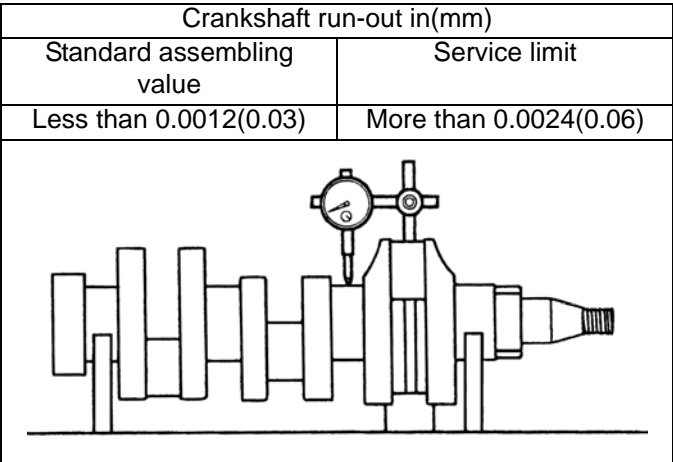

Fig. 3-28
- 1. To measure run-out of the crankshaft, support the crankshaft using a V block as shown in Fig. 3-28. Using a dial indicator as shown, measure the run-out of the center to the crankshaft center journal, by slowly rotating the shaft through one revolution. If the service limit is exceeded, correct or replace.